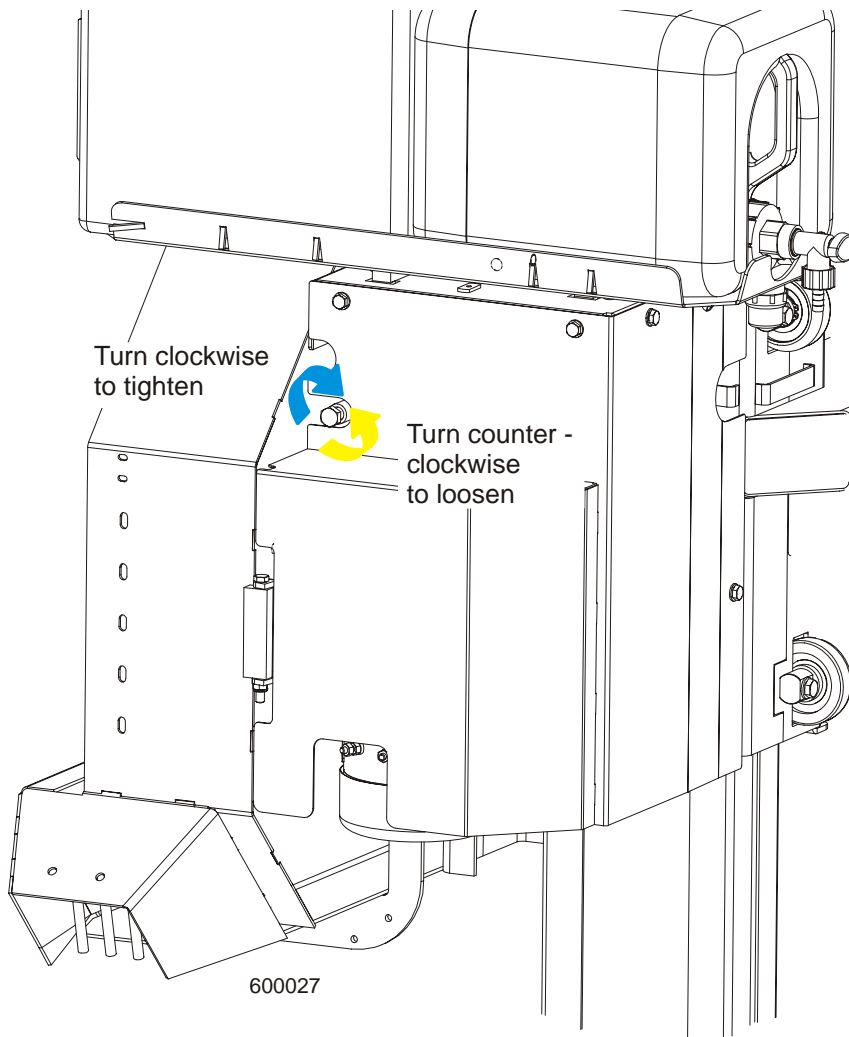

FIG. 5-4
**See Figure 5-4.** Adjust proper drive belt tension using the bolt located between the drive side wheel covers. To tighten drive belt turn the bolt clockwise. To loosen drive belt turn the bolt counter - clockwise.